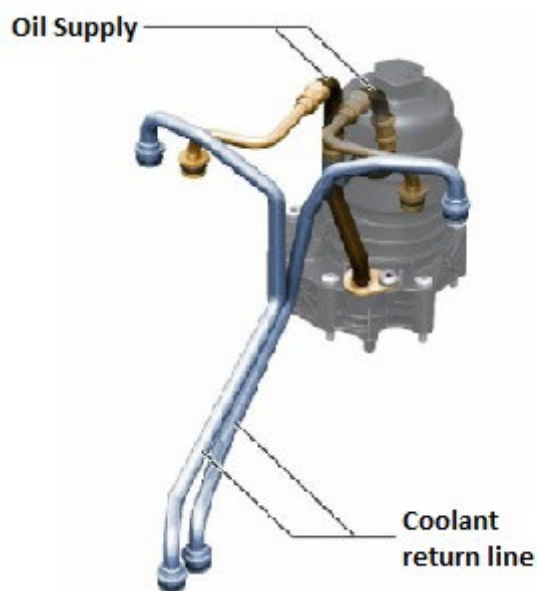

Figure 2: Coolant return lines are marked.
- Replace the O-rings at the coolant return lines at the Turbocharger (refer to Figures 2 and 3 or SSP **920493**).